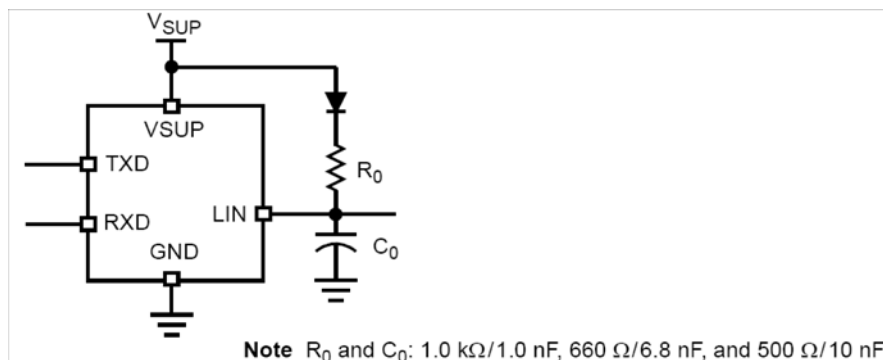
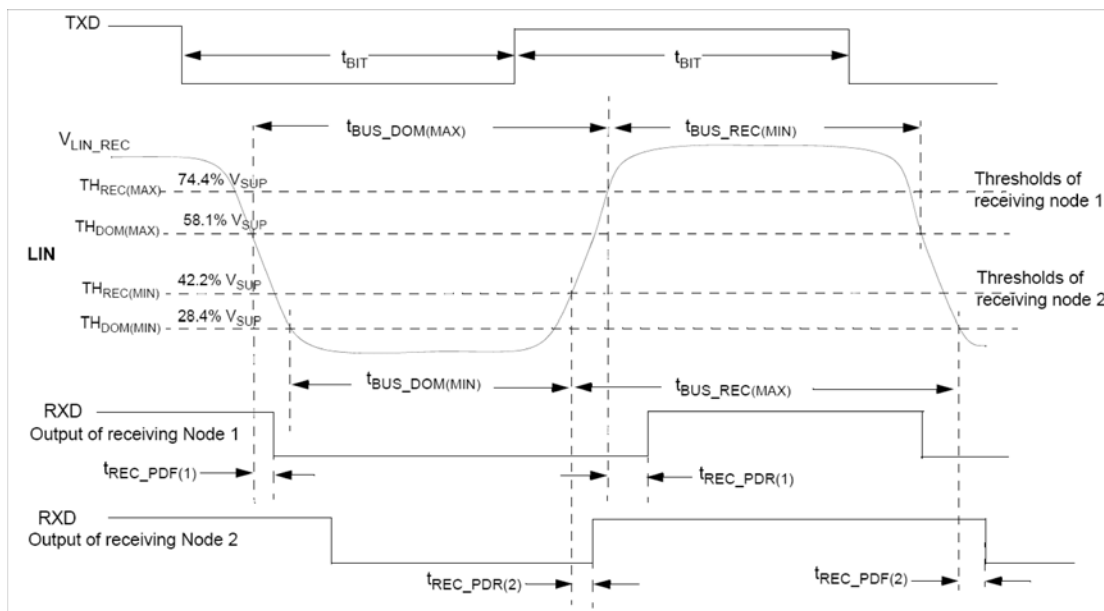
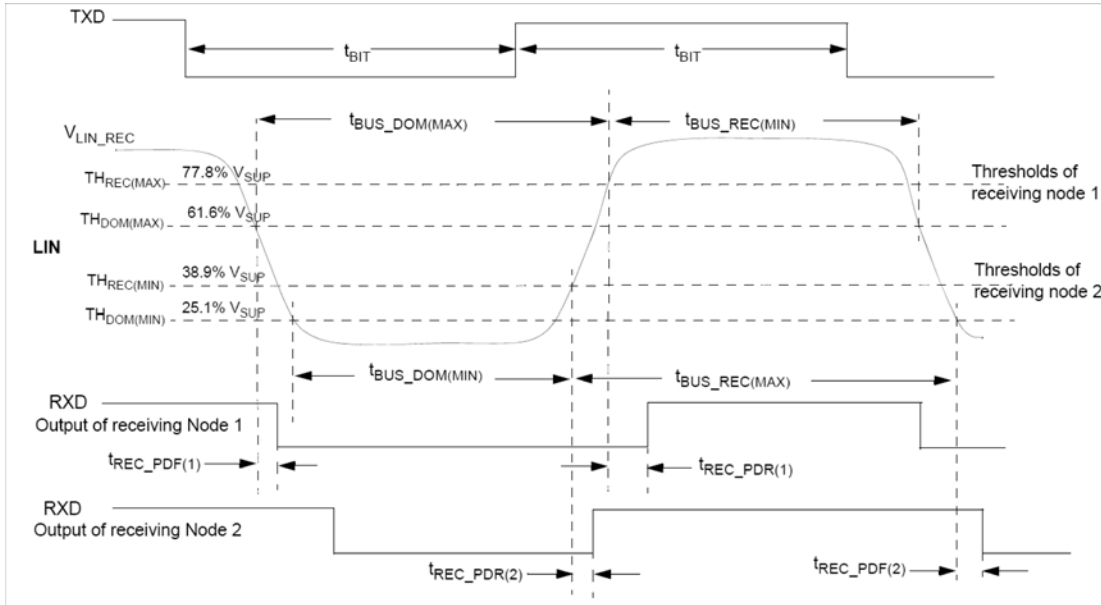
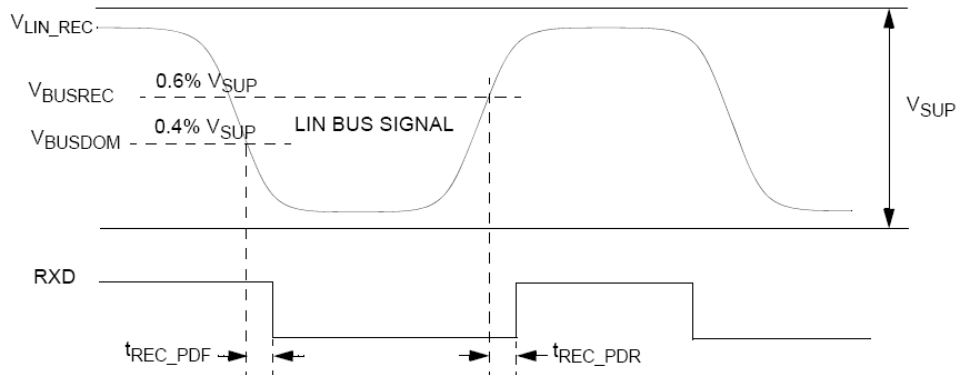

Figure 5. Test Circuit for Timing Measurements
Figure 6. LIN Timing Measurements for Normal Baud Rate
Figure 7. LIN Timing Measurements for Slow Baud Rate
Figure 8. LIN Receiver Timing
LIN Driver - 20.0 kBit/s; Bus load conditions ( $C_{BUS}$ ;  $R_{BUS}$ ): 1.0 nF; 1.0 k $\Omega$  / 6.8 nF; 660  $\Omega$  / 10 nF; 500  $\Omega$ . Measurement thresholds: 50% of TXD signal to LIN signal threshold defined at each parameter. See Figure 5 and Figure 6.
33.  $V_{SUP}$  from 7.0 to 18 V, bus load  $R_{BUS}$  and  $C_{BUS}$  1.0 nF / 1.0 k $\Omega$ , 6.8 nF / 660  $\Omega$ , 10 nF / 500  $\Omega$ . Measurement thresholds: 50% of TXD signal to LIN signal threshold defined at each parameter. See Figure 5 and Figure 8.
LIN Driver - 10.0 kBit/s; Bus load conditions ( $C_{BUS}$ ;  $R_{BUS}$ ): 1.0 nF; 1.0 k $\Omega$  / 6.8 nF; 660  $\Omega$  / 10 nF; 500  $\Omega$ . Measurement thresholds: 50% of TXD signal to LIN signal threshold defined at each parameter. See Figure 5 and Figure 7.